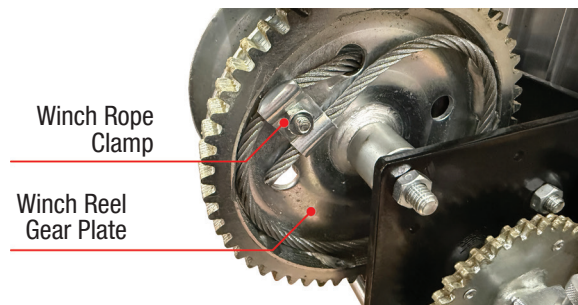

Figure 4-20: Winch Rope Clamp
55. Route the cable end through the winch reel gear plate. Make sure the cable is nested within the recess of the gear plate as shown in Figure 4-20. Using a 7/16 in. wrench or socket, attach the winch rope clamp over the cable and tighten.